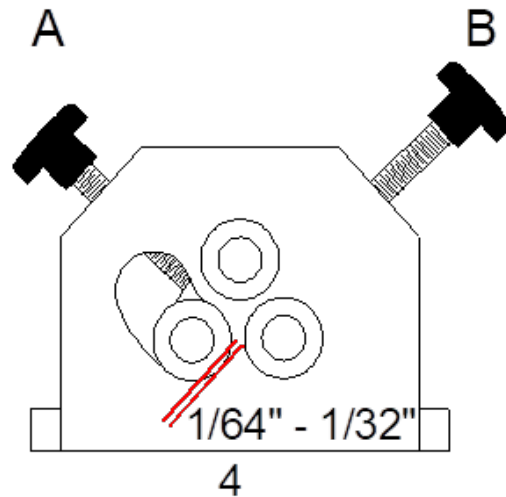

Figure 6-4
- Loosen the pressure knob “B” so that the pinch roll is about 1/64” – 1/32” away from the lower stop point as shown in figure 6-4.